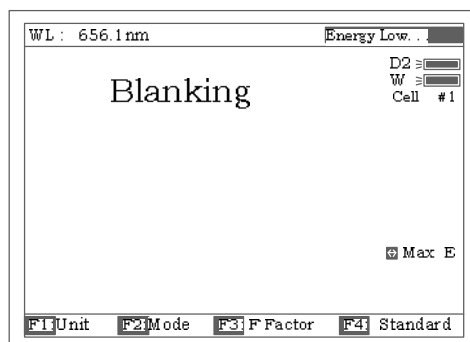
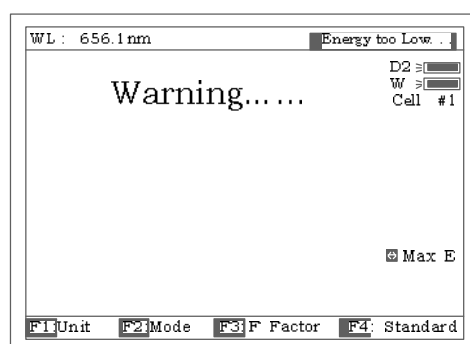

Fig 8
Fig 9
Note: 1. If the reference solution is too thick, “Energy Low...” will appear following the “Blanking...” on the screen (Fig 8). If “Energy too Low...” appears following the “Blanking...”, the test will be paused and “Warning...” will appear on the screen. (Fig 9).
2. If no automatic changer installed “cell #1” and “Max E” will disappear in Fig8